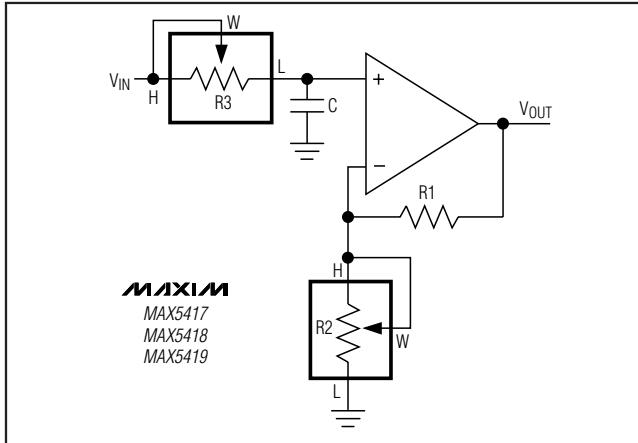

Figure 11. Programmable Filter
Figure 11 shows the configuration for a 1st-order programmable filter. The gain of the filter is adjusted by R2, and the cutoff frequency is adjusted by R3. Use the following equations to calculate the gain (G) and the 3dB cutoff frequency (fc):